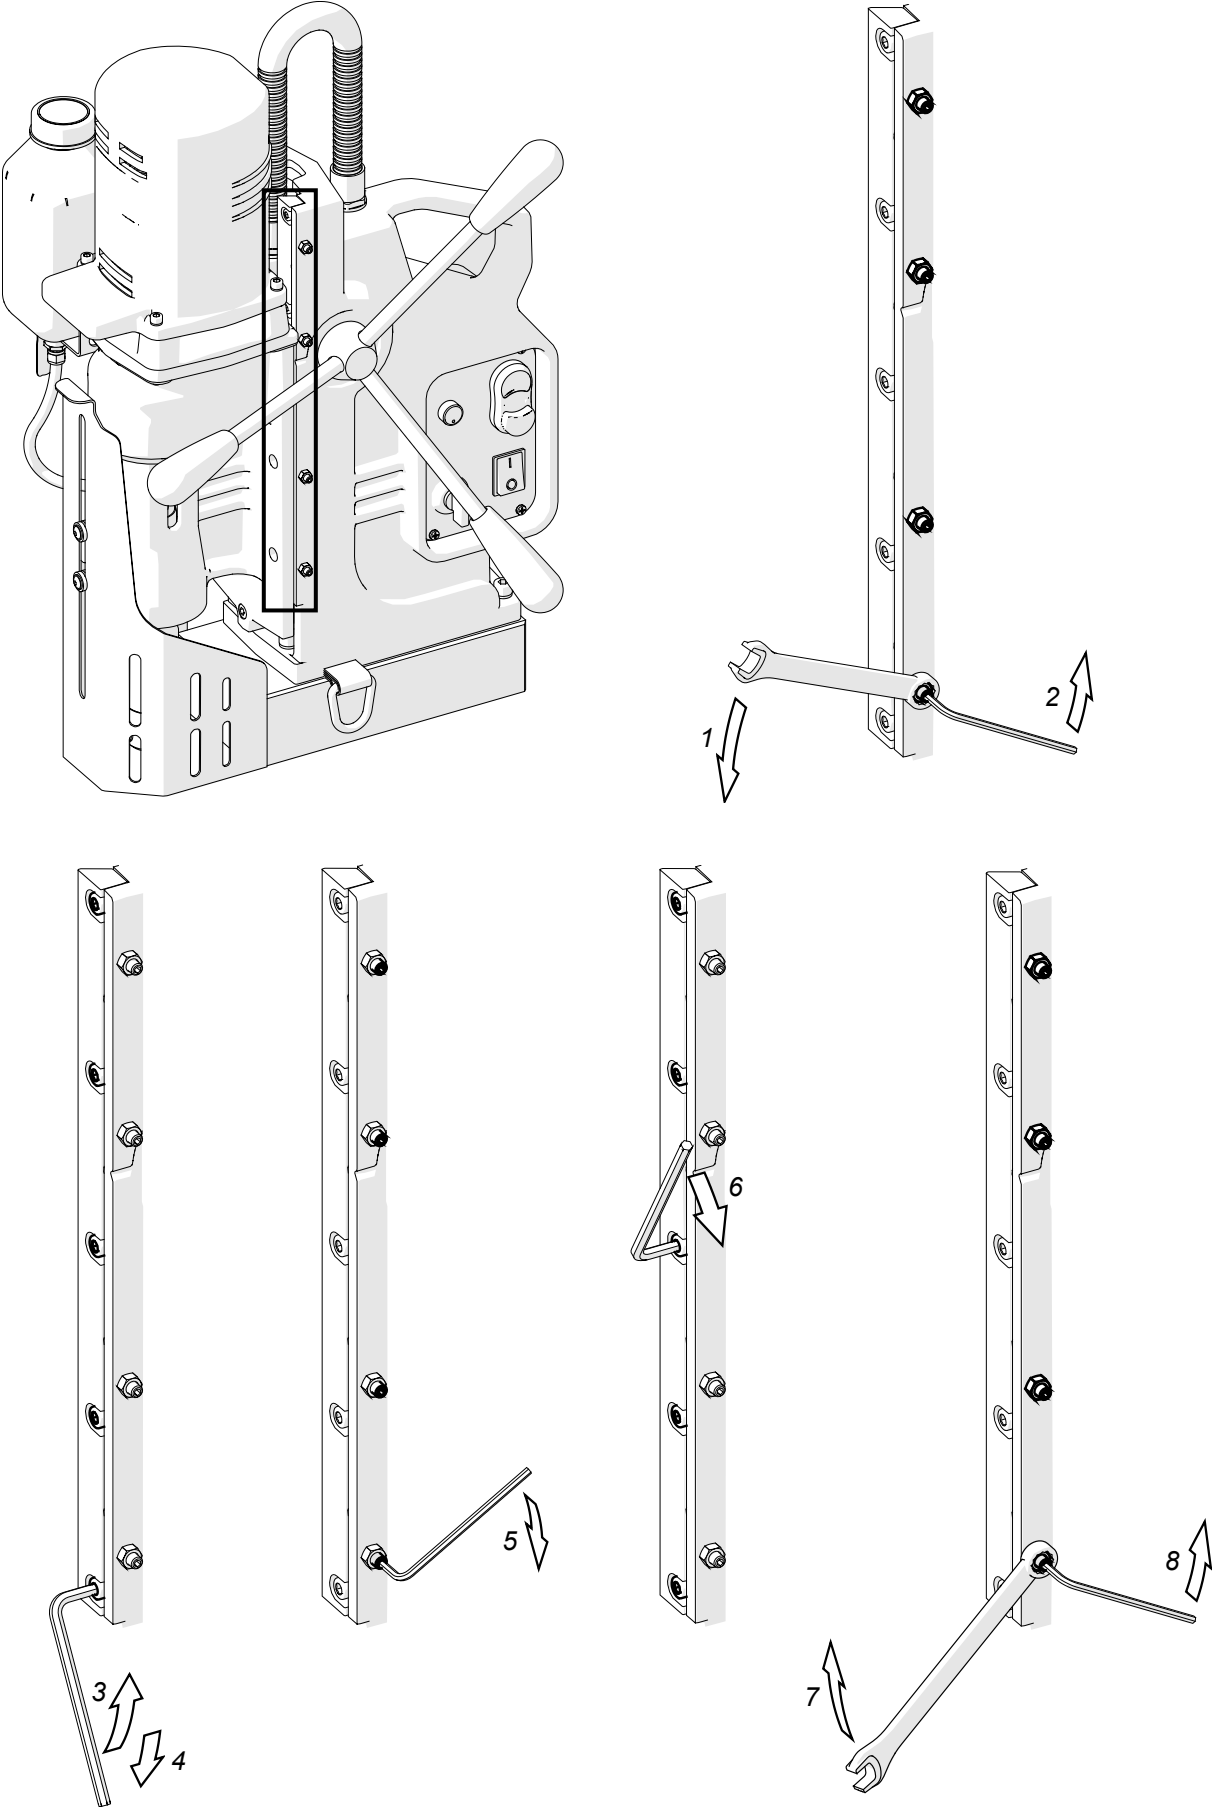

Fig. 11. Adjusting the gib clearance
To remove the excessive clearance, use the 8 mm combination wrench to loosen the nuts (1, Fig. 11), and then use the 2.5 mm hex wrench to loosen the set screws (2). Next, rotate the spoke handles to set the motor on such a level to access the gib screws through the holes, use the 4 mm hex wrench to loosen these screws (3), and then tighten (4) with a force enough to prevent the gib from being pushed out by the springs located inside.